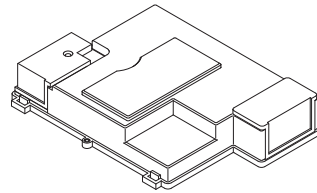

Fig. 14
2. Undo the screws securing the cover and release the cover retaining barbs from their slots. Disengage the rear of the cover from the facia hinge pin and lift the cover away (Fig. 14).